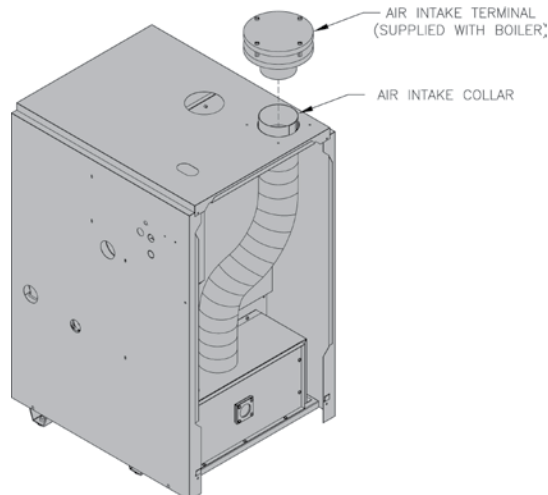

Figure 16: Indoor Air - Air Intake Terminal Installation
15. Install supplied air intake terminal. See Figure 16.